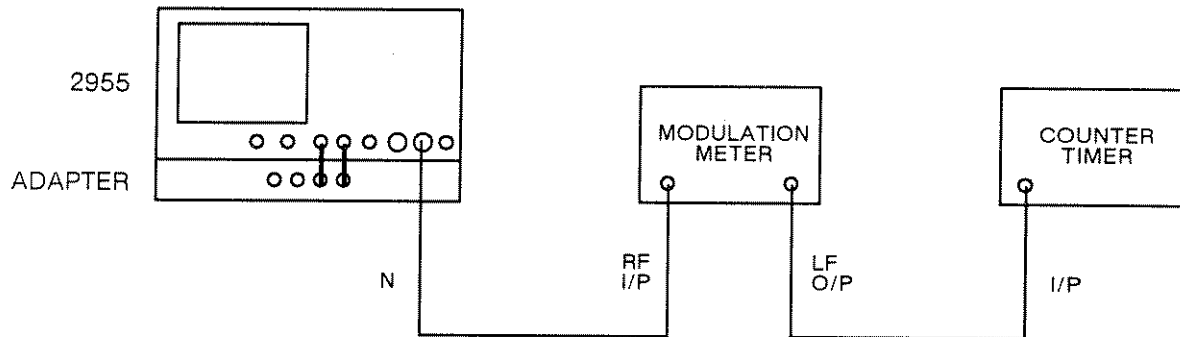

Fig. 5-7 Test equipment connections for FSK and Manchester data generator test
- (1) Connect the 2955 RF IN/OUT N socket to the modulation meter RF input socket and connect the modulation meter LF output to the counter/timer as shown in Fig. 5-7.
- (2) Switch on the Adapter on and press the CRTS key.